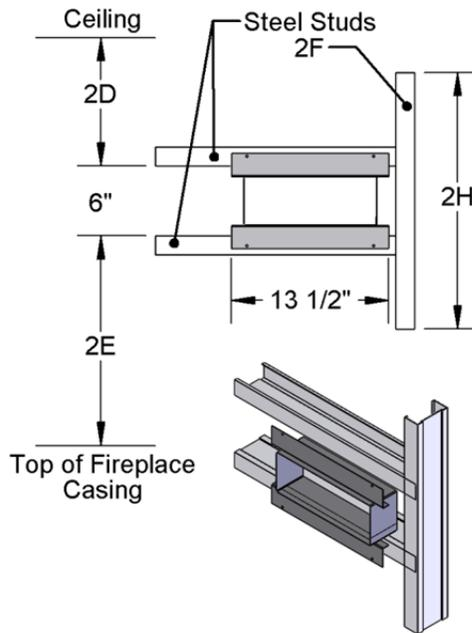

FIGURE 14 HRS OUTLET FRAMING AND CLEARANCES
3. Using steel studs, install a header at the location and height you wish to mount the air outlet grills. Refer to Figure 14 for framing requirements.
4. Attach the outlet grill adapters (J) that are pre-installed in the duct to the steel stud header.
5. Install a second steel stud to frame the grill adapters on top and bottom as shown in Figure 14.
7. Screw the air outlet grills (I) to the wall with the black screws provided (G).